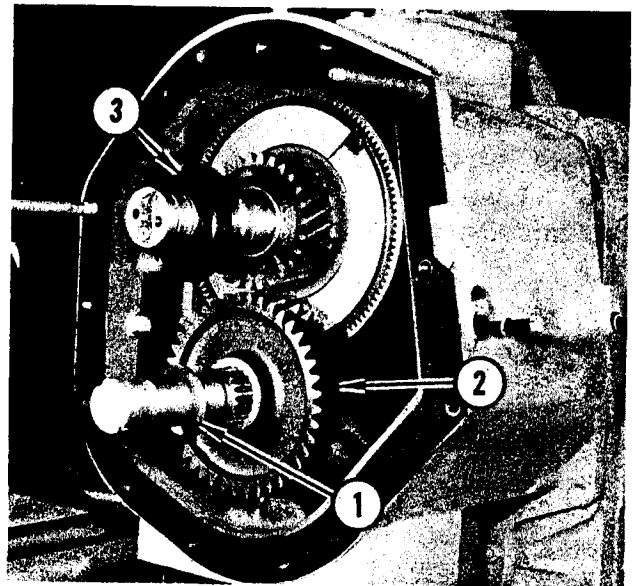

FIGURE 45. REVERSE GEAR REMOVAL
Refer to Figure 45. Remove spacer (1) and reverse gear (2) from lower shaft. Remove spacer (3) from upper shaft.